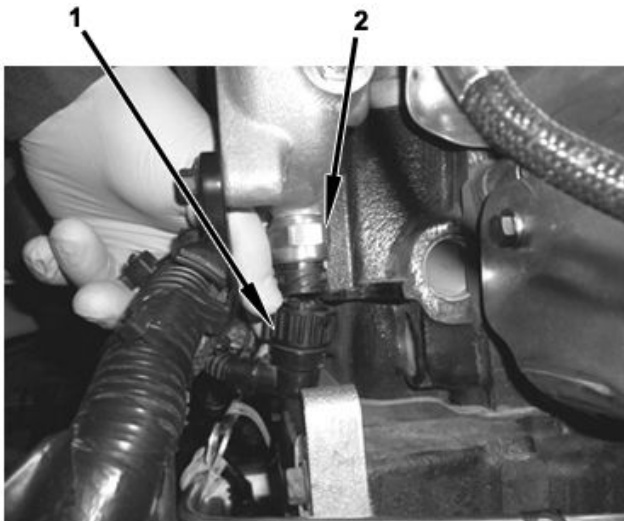

Figure 44. Engine Coolant Temperature Sensor.
25. Connect engine harness (Figure 44, Item 1) to engine coolant temperature sensor (Figure 44, Item 2).